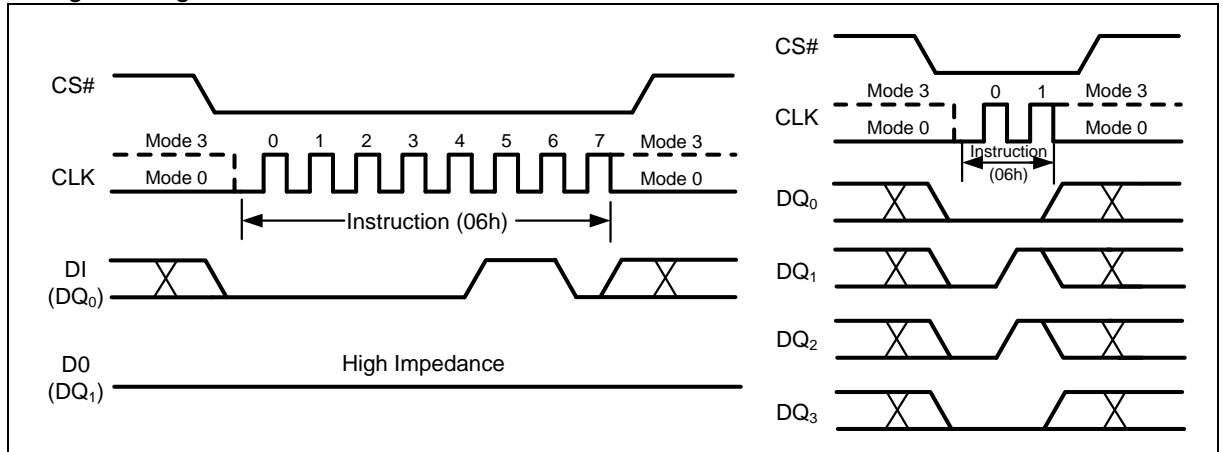

Figure 7 Write Enable Instruction for SPI Mode (left) or QPI Mode (right)
The Write Enable (WREN) instruction (Figure 7) sets the Write Enable Latch (WEL) bit in the Status Register to a1. The WEL bit must be set prior to every Page Program, Quad Page Program, Sector Erase, Block Erase, Chip Erase, Write Status Register and Erase/Program Security Sectors instruction. The Write Enable (WREN) instruction is entered by driving CS# low, shifting the instruction code “06h” into the Data Input (DI) pin on the rising edge of CLK, and then driving CS# high.